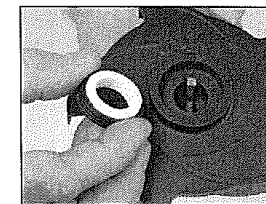

Fig. 9
4. Lubricate the seal cavity of the impeller (Ref. 11) with WD-40, LPS or equivalent, and carefully press the seal's mating ceramic ring in place, seating it squarely on the bottom of the cavity. The glossy, finished side of the ceramic seal must be facing you. **IMPORTANT:** Make sure both seal surfaces are clean and lubricated. Never run seal surfaces dry. (See Fig. 9.)